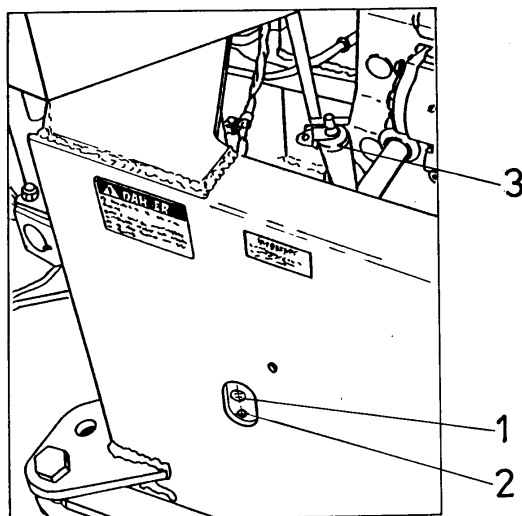
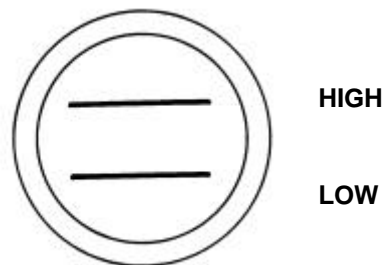

Fig. 5.41. Checking the Transmission Oil Level
Fig. 5.42. Upper Sight Gauge
3. Check the oil level in lower sight gauge (2, Fig. 5.41) through a cut-out in the rear frame left wall.
4. If the oil level is too low, stop the engine, lock the frame locking bar, remove oil filter cap (3, Fig. 5.41) and add oil.
6. Check the oil level in both sight gauges through the cut-out in the frame (Fig. 5.41). If the oil level is not between the high and low mark (Fig. 5.42) on the top sight gauge, remove filler cap (3, Fig. 5.41) and add oil until the level settles in the middle of the upper gauge (maximal level should not exceed the middle of the upper gauge). Refer to Chart 2 and 3 to choose the proper oil grade. When refilled reinstall the cap.
4. Unscrew transmission oil filler cap (2, Fig. 5.41). This will vent the case and allow the oil to drain faster.